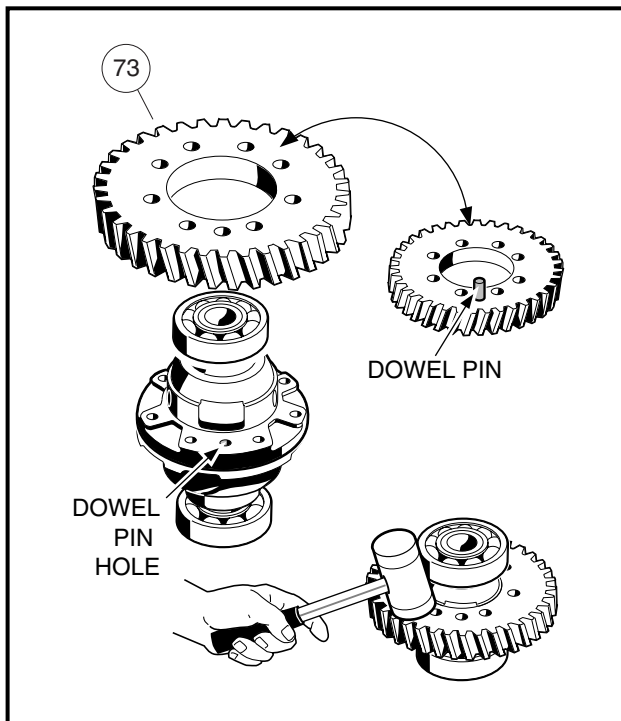

Figure 6-38 Ring Gear
- Position the output ring gear (73) on the carrier case, visually aligning the dowel hole in the carrier case with the dowel pin in the ring gear (**Figure 6-38, Page 6-19**). Use a plastic or rubber mallet to tap the ring gear into place on the dowel pin.